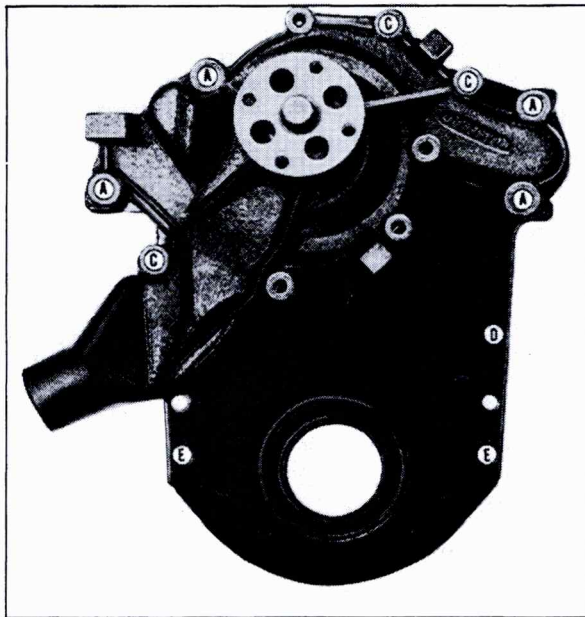

Fig. 6-123 Engine Front Cover Attaching Screws
2. Install front cover, with water pump attached, over end of crankshaft, lining up dowel holes in cover with locating dowels on cylinder block. Secure with attaching screws. Refer to Fig. 6-123 for proper screw location and torque specifications.